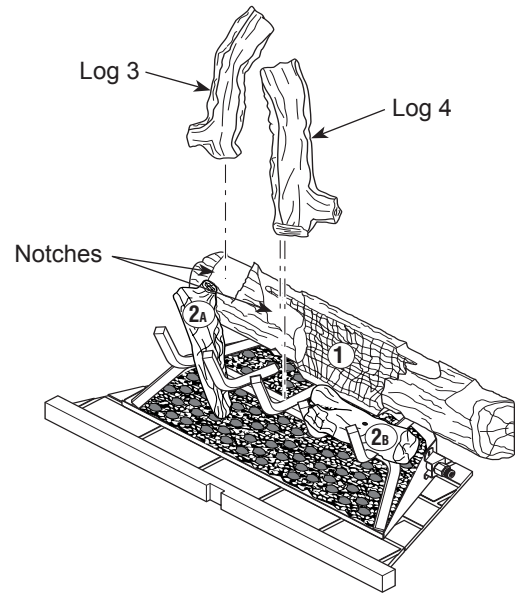
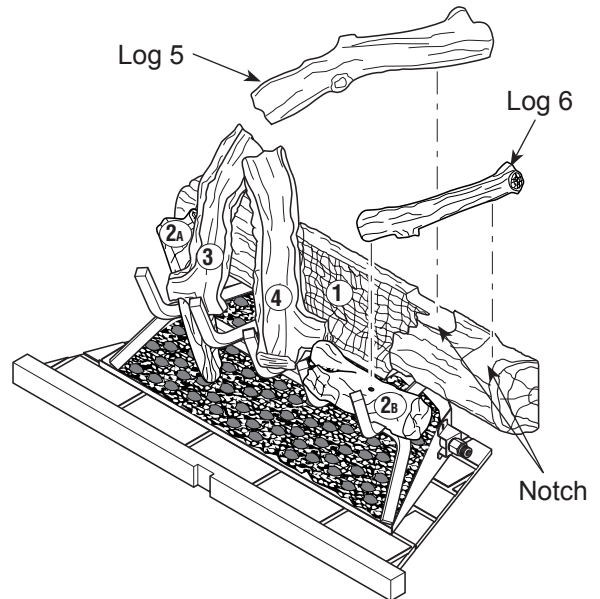
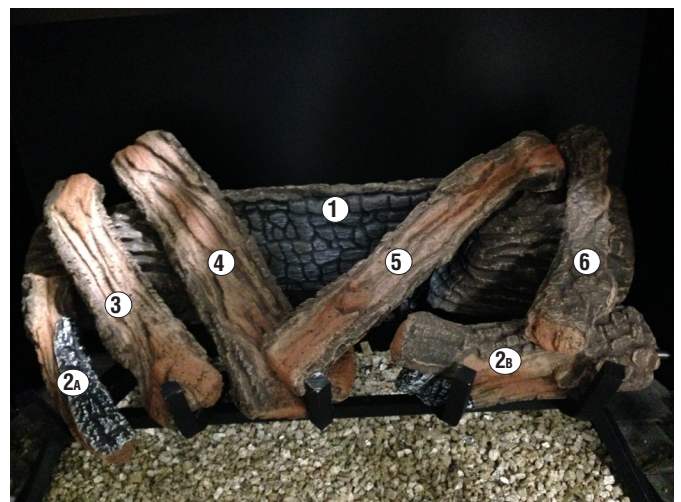

Figure 28 - Installing Logs 3 and 4
Figure 29 - Installing Logs 5 and 6
Figure 30 - Logs Installed for 42" Models
3. Place log 3 into notch on top left of log 1, resting lower end on left two grate fingers (see **Figure 28**).
4. Place upper end of log 4 into notch on log 1 as shown in **Figure 28**. Rest lower end of log 4 on the middle grate finger as shown in **Figure 29**.
5. Place upper end of log 5 into notch on top inner right of log 1 (see **Figure 29**). Rest lower end of log 5 on middle grate finger as shown in **Figure 30**.
6. Place log 6 into notch on top right of log 1 (see **Figure 29**). Rest lower end of log 6 on top of log 2B (see **Figure 30**).